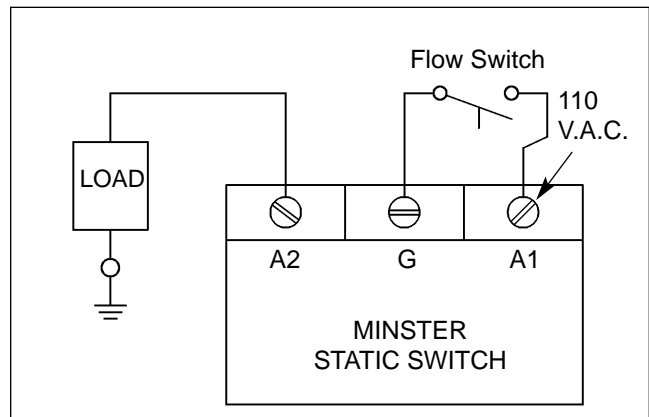

Figure 6D. Static switch.
Whenever the lube system flow switch is used to control inductive loads or high current circuits, the Minster Bul. 491-0011 static switch is furnished. This is a solid state A.C. switching unit which is completely encapsulated and sealed. Size is comparable to a small terminal block. Use of the static switch permits control of loads up to 500 watts at 120 V.A.C. from the flow switch. Its completely electrical operation provides the additional reliability of no moving parts. Three binding posts are provided for quick electrical connection. They are identified as terminals "A2", "G" and "A1". A typical wiring schematic for this device is shown in Figure 6D.
1. With Stroking Selector in the SINGLE STROKE mode and slide positioned at top of stroke, start the lube pump motor. Then check for presence of 110 V.A.C. between terminal A1 and press ground. (See Figure 6D.)